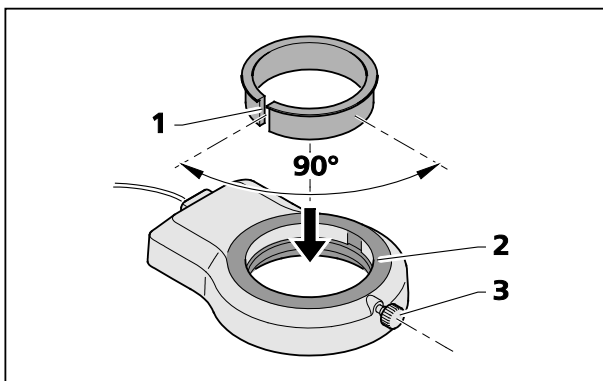

**Fig. 13** Mounting ring illuminator on microscope body
- Insert the connection cable (Fig. 13/1) of the ring illuminator (Fig. 13/4) into the lower socket (Fig. 13/2) of the Stemi mount and into the socket of the ring illuminator.
- Push ring illuminator onto the microscope body (Fig. 13/3) from below, and secure using the knurled screw (Fig. 13/5).
- Push the ring illuminator including the adapter up on the front optics and fix it with the clamping screw (Fig. 14/3) (see Fig. 13).